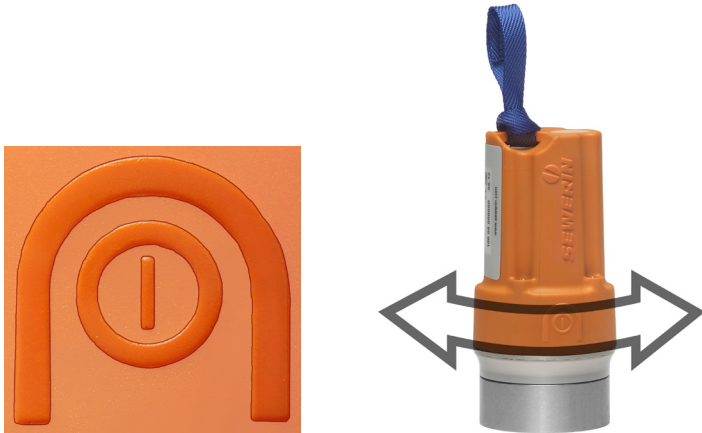

Fig. 3: Activating the logger:
2. Activate the logger by moving a magnet over the activation switch. Fig. 3 shows the direction of movement to be used. You can, for example, use the magnet of another logger.